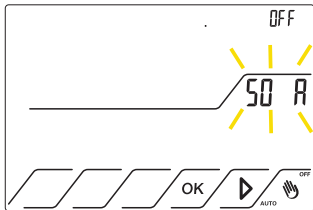

Fig.42
11.2.2 Press  up to position on **SO A** that it will start to flash. The status is OFF. Fig.42